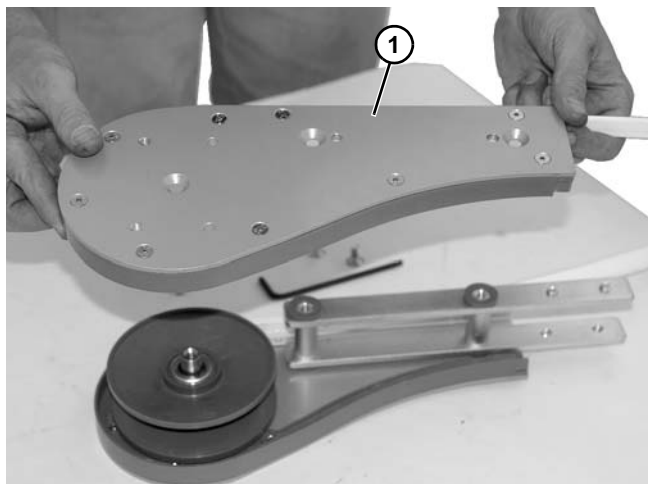

Figure 114
4. Remove the head plate (**Figure 114, item 1**) from the idler end.